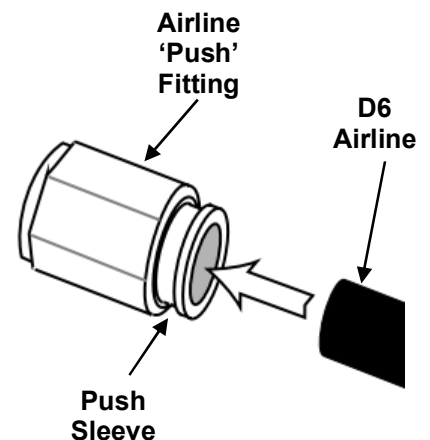

Fig. 28
**NOTE:** To assemble airline tubing into push fittings, use firm pressure to push tubing into fitting until it bottoms out. Ensure tubing is cut square with no burrs, Fig 28.